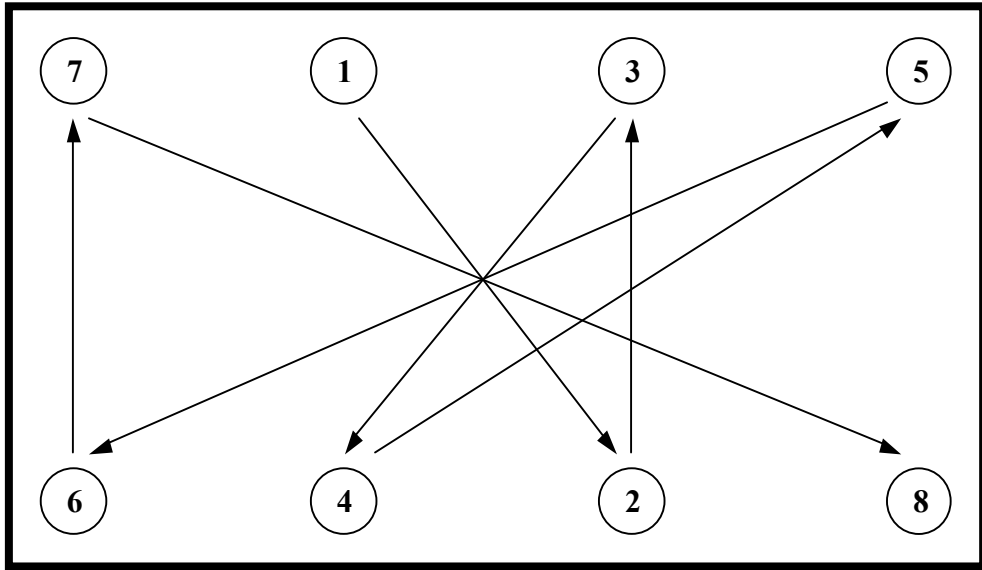
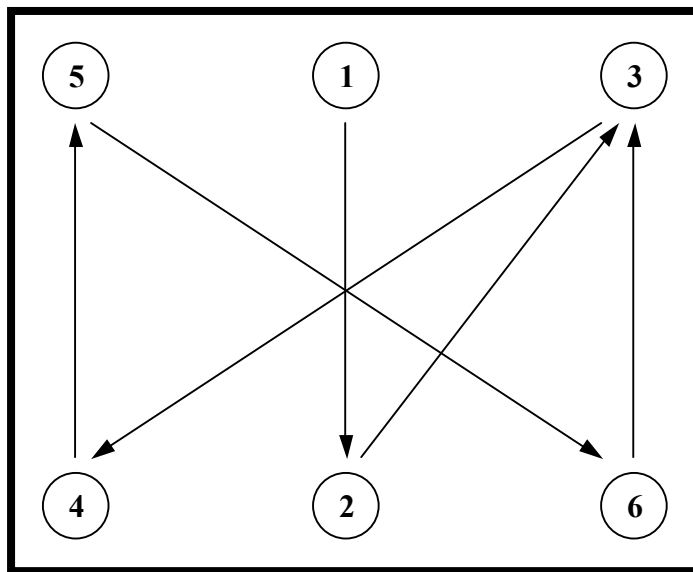

Figure 1 Tightening order of mounting screws for HVIGBT (8 points tightening module)
Figure 2 Tightening order of mounting screws for HVIGBT (6 points tightening module)
- b) Tighten each bolt to 60% of rated torque in the tightening pattern shown in Figure 1 and Figure 2.
- c) Complete installation by tightening each bolt to 100% of rated torque in the tightening pattern shown in Figure 1 and Figure 2.